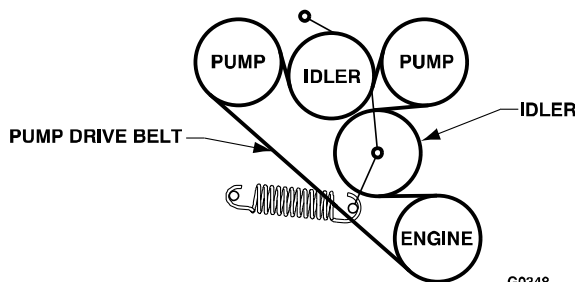

FIGURE 7
- d) Route new belt onto sheaves as shown in the decal located on the back of the left drive shield. See Figure 7.